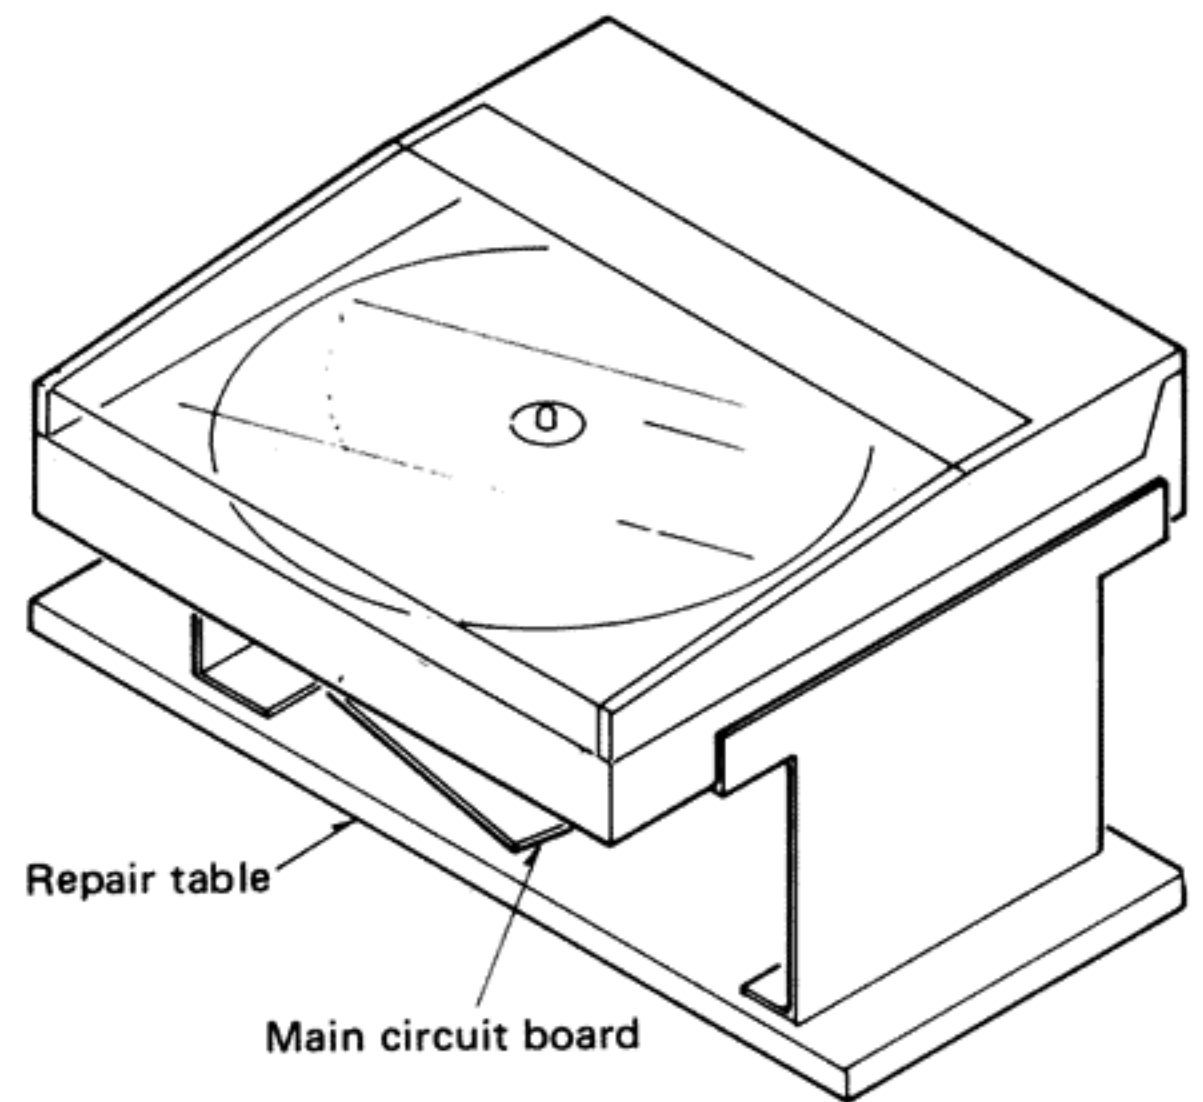

Fig. 21
1. How to use the repair table (Fig. 21)
- ① Remove the bottom board.
- ② Remove the main circuit board and connect the P.C.B. ground terminal to the chassis (Stator frame).
- ③ Put the unit on the repair table.
- ④ Fit the turntable platter and put on the turntable mat.
- ⑤ Put on the record and check the circuits from under the unit.